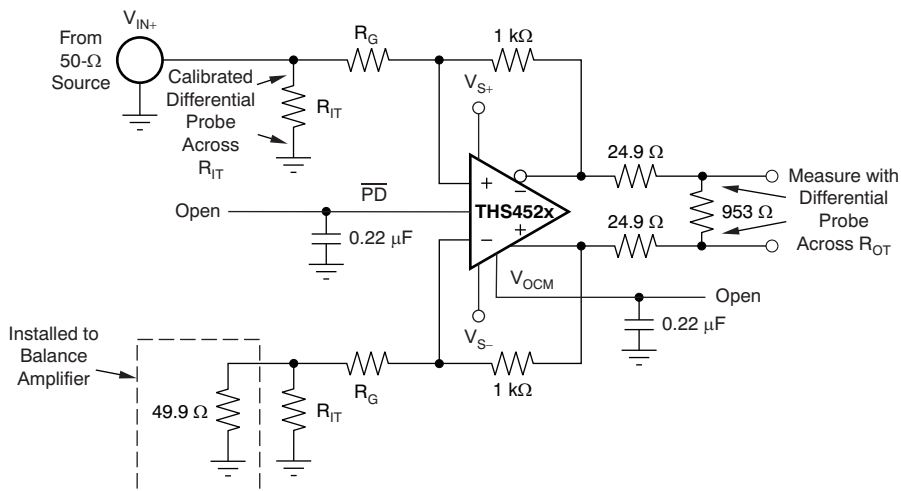

Figure 54. Frequency Response Test Circuit
**Table 4. Gain Component Values for Single-Ended Input (see Figure 54)**
The circuit shown in Figure 54 is used to measure the frequency response of the circuit.